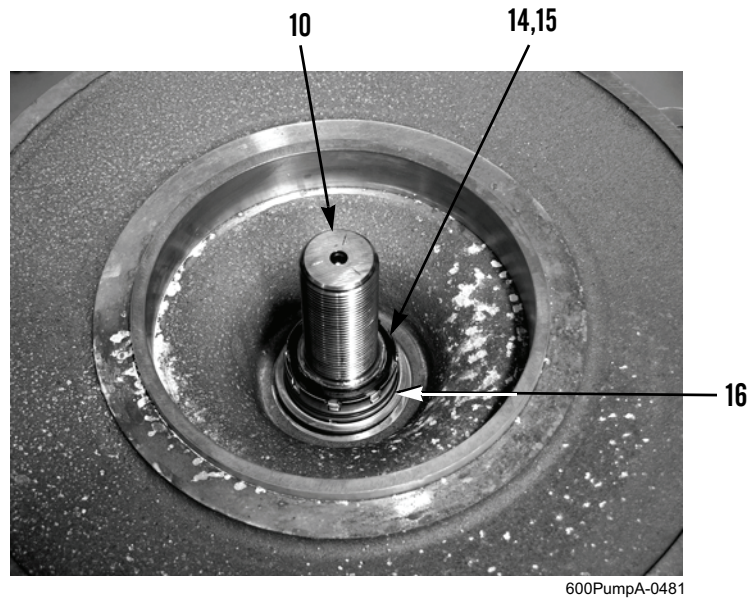

Figure 6. Shim(s), Seal Washer, and Rotating Portion of Seal.
9. Remove shim(s) (Figure 6, Item 14) and seal washer (Figure 6, Item 15) from impeller shaft (Figure 6, Item 10). Retain shim(s) for installation.
10. Apply oil to impeller shaft (Figure 6, Item 10) and work oil up under rubber bellows of rotating (Figure 6, Item 16) portion of seal. Slide rotating portion of seal off impeller shaft as a unit. Discard rotating portion of seal.